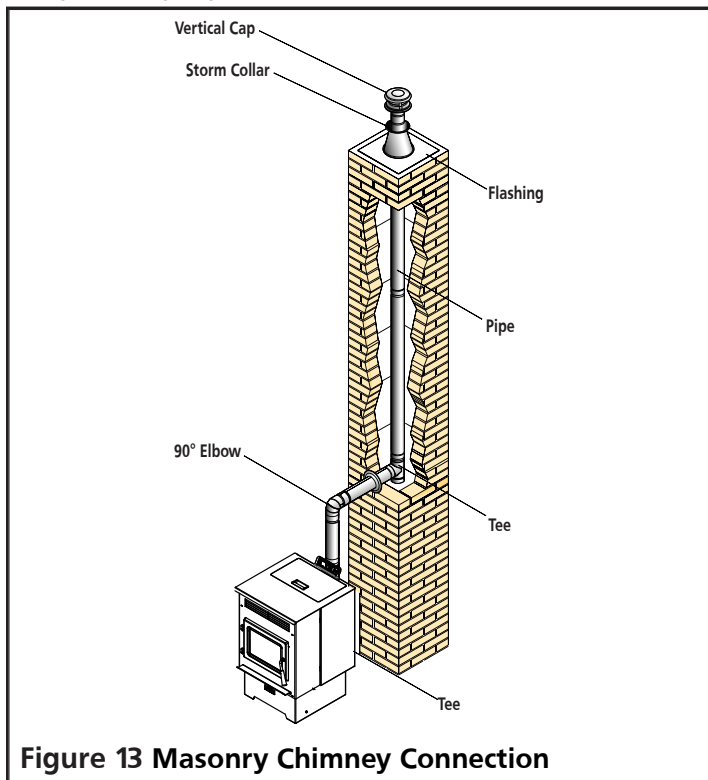

Figure 13 Masonry Chimney Connection
2. The chimney connection must not be obstructed by the chimney connector pipes, such as the Figure 13 below illustrates.